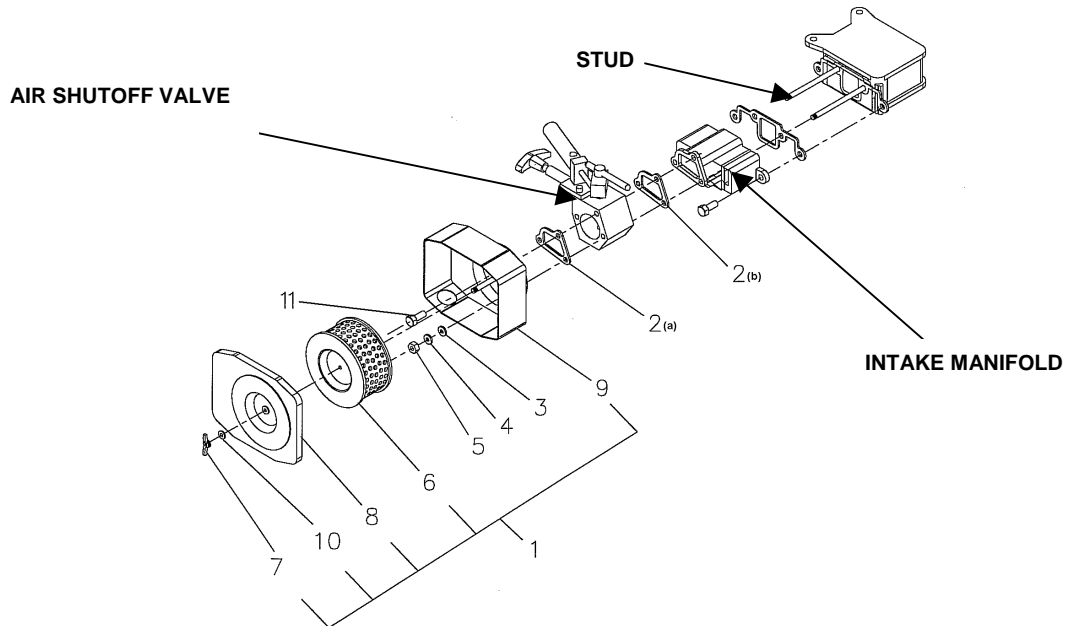

Figure 2. Air Cleaner Assembly.
2. Disconnect air filter assembly (1). Remove the wing nut (7), cover (8), and filter element (6) from the filter housing (9). Washer (10) is affixed to cover (8). See Figure 2.